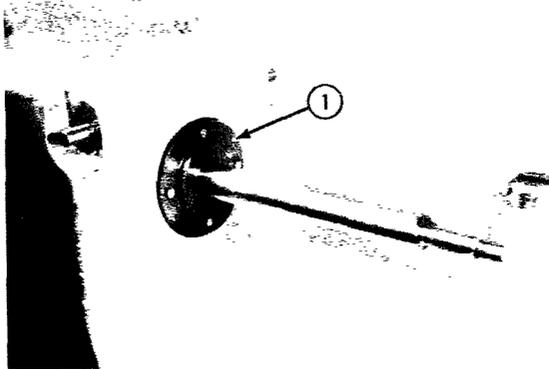

Fig. 2-18
- (11) Remove the screws holding the end cap to the outside of the housing. Remove the end cap (1, Fig. 2-18).